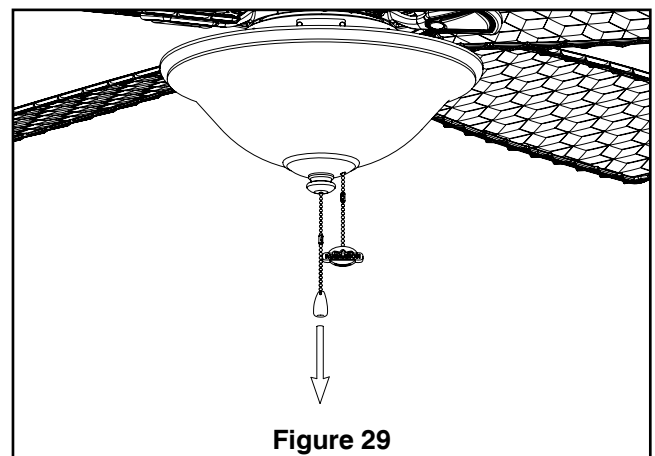

Figure 29
- ☐ 4. **<<FP8011OB ONLY>>** Check the operation of the down light by gently pulling on the light pull chain. (Figure 29)